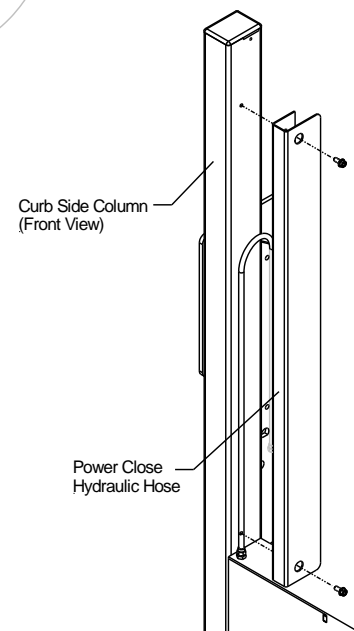

Fig. 22
3. Re-install Wire Guard (if applicable): Reinstall the wire guard on the curb side column for Power Close units only, **Fig. 22**.